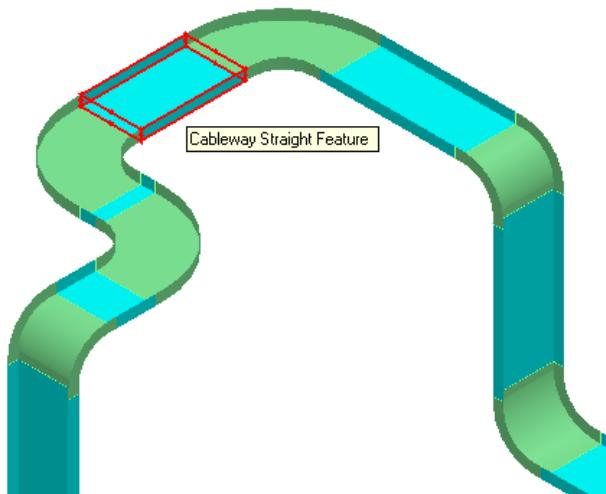

Figure 4: Cableway Straight Feature
5. Select the **Cableway Straight Feature** of a cable tray that you need to move, as shown in Figure 4.